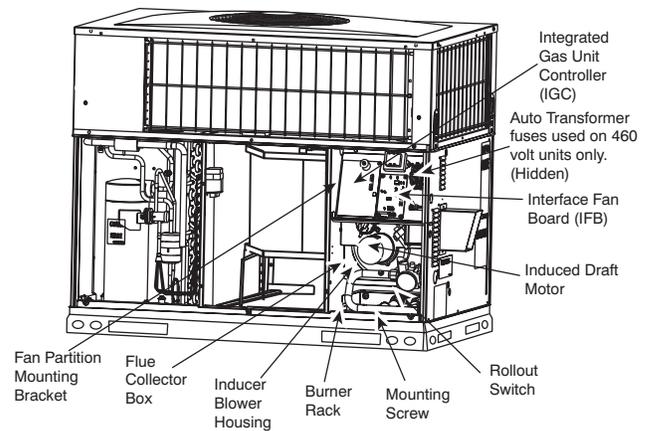

Fig. 22 - Blower Housing and Flue Collector Box A09193
2. Remove the 11 screws holding the flue collector box cover (See Fig. 22) to the heat exchanger assembly. Inspect the heat exchangers.
Unit is equipped with a direct spark ignition 100 percent lockout system. Ignition module (IGC) is located in the control box (See Fig. 22). Module contains a self-diagnostic LED. During servicing, refer to label diagram or Table 6 in these instructions for LED interpretation.
5. Remove fan partition mounting bracket (2 screws located on the left side of control compartment on the fan partition panel). Slide bracket forward, bottom first, to remove. (See Fig. 22.)
7. Remove the mounting screw that attaches the burner rack to the unit base (See Fig. 22).
8. Partially slide the burner rack out of the unit (see Fig. 22 and 25). Remove ignitor and sensor wires at the burner assembly. Remove wires to rollout switch.
9. Slide the burner rack out of the unit (See Fig. 22 and 25).